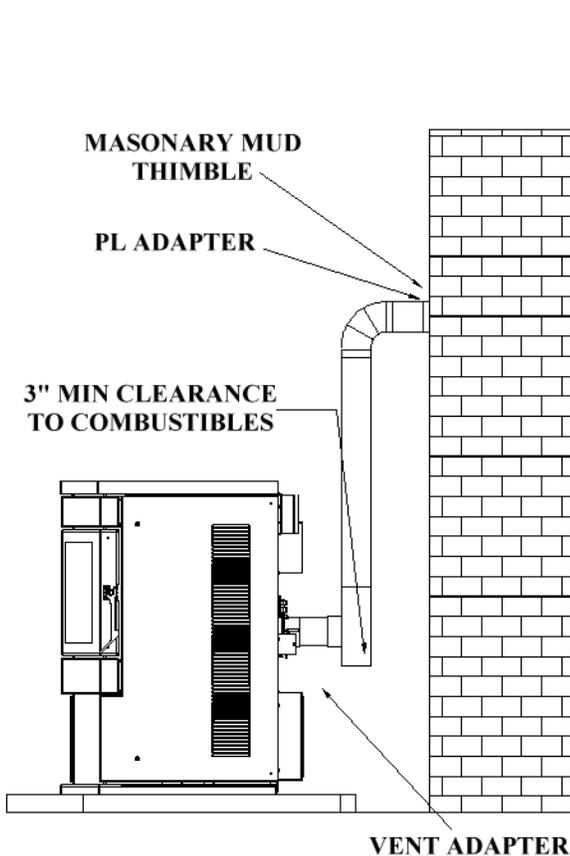

Figure 10
3. Venting into the side of an existing masonry chimney must be done through a masonry thimble. When wall penetration is necessary to access a masonry chimney, use a listed PL vent wall thimble. (Figure 10).